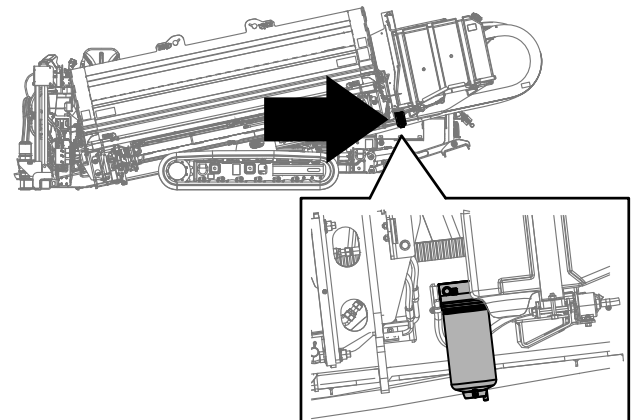

Figure 95
2. Loosen the drain valve on the bottom of the filter (Figure 95).
2. Drain some fuel by loosening the vent plug and opening the drain valve (Figure 95).